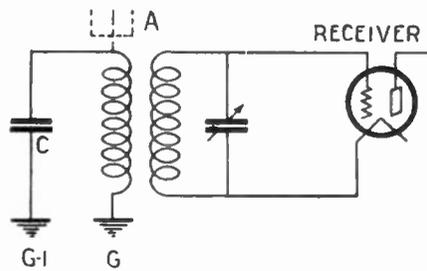

Fig. 248. This diagram illustrates the use of a separate ground connection as a temporary substitute for an aerial.
A. 1. As an emergency measure, when the regular aerial is "down," connect the input circuit of the receiver as shown in the diagram marked Fig. 248; it may be found satisfactory for both local and distant reception.